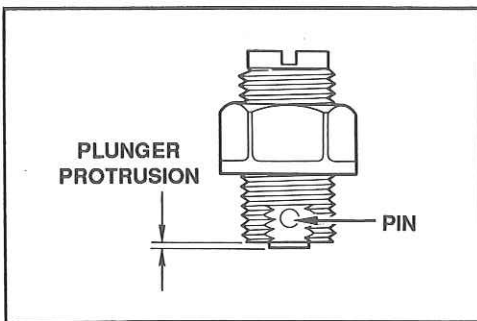

Fig. 32
2. Inspect the adjusting screw. The plunger should protrude from the bottom of the screw (Fig. 32). Approximately 12 lbs. (53 N) force is required to move the plunger. Be sure the retaining pin is fully seated in its hole.